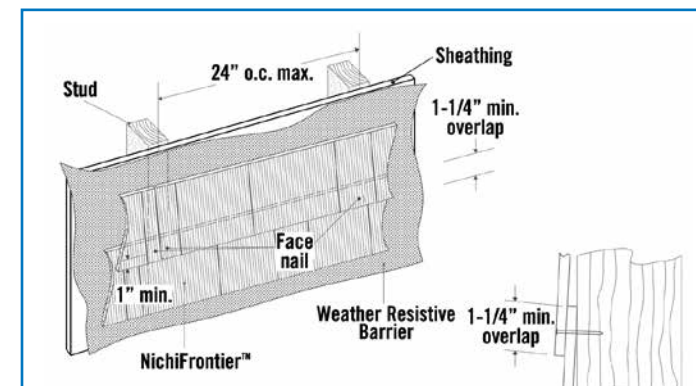

Fig. 10.2
- A minimum overlap of 1 1/4" is required. (Fig. 10.2)
- It is permissible to install NichiFrontier in a face nail type installation to meet certain installation requirements or when specified by local code. (Fig. 10.2)